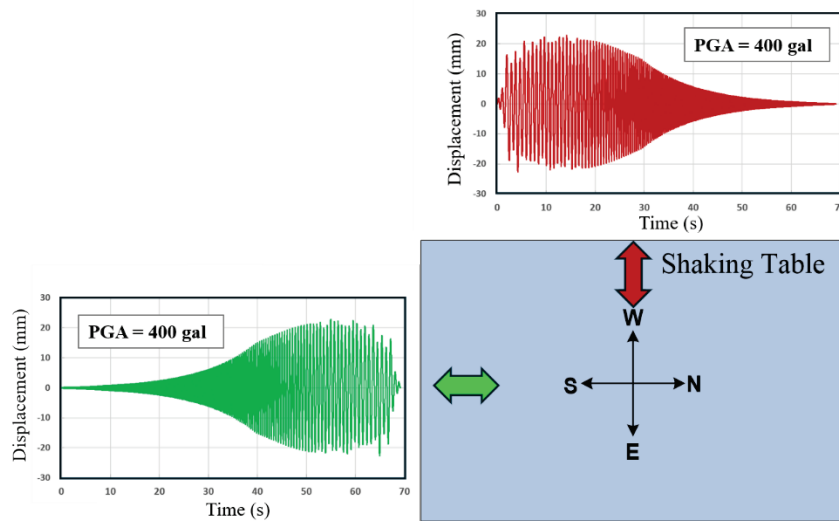

Figure 6. Bidirectional input displacement time histories and directions
- 8.6 The displacement time histories and directions of the bidirectional artificial earthquake input are shown in Figure 6.